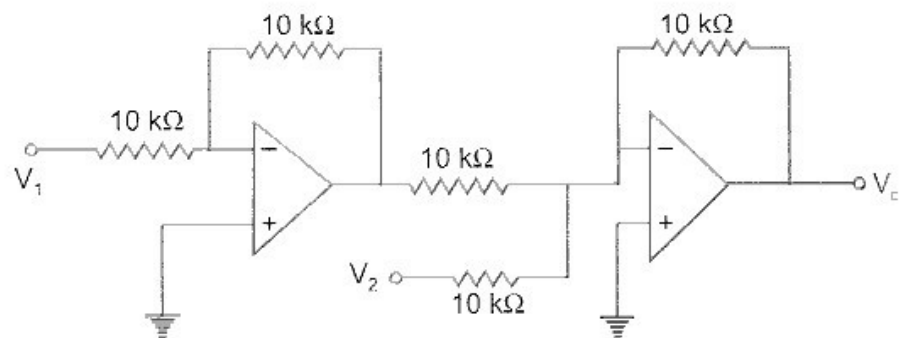

Fig. P. 4.2
- 4.2. Calculate  $V_o$  for the circuit of Fig. P. 4.2. for  $V_1 = 5 \text{ V}$ ,  $V_2 = 2 \text{ V}$ .